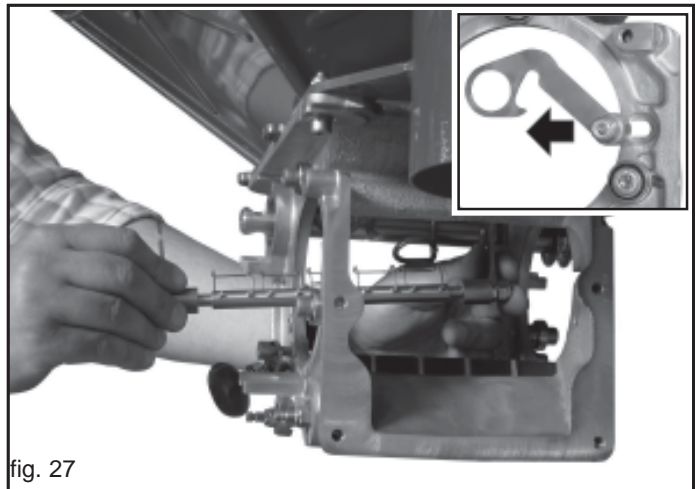

fig. 27
- 4) Extract the shaft of the spring elements from its housing (Fig. 27).